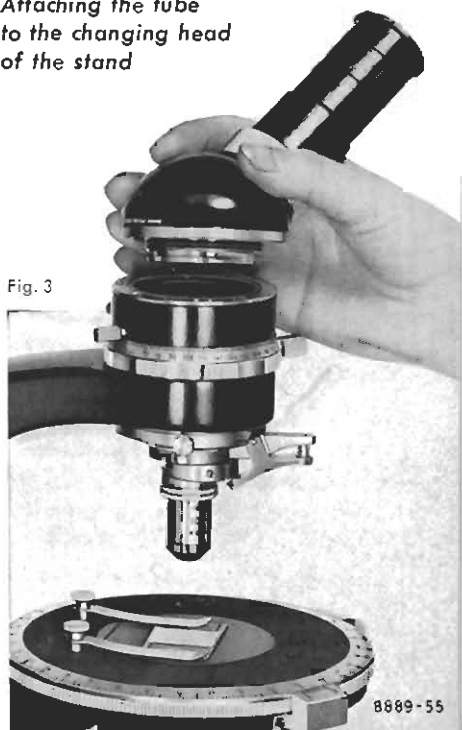

Fig. 3
3. The tube, of either monocular or binocular type, is engaged with the bayonet mount (3) of the stand and secured by a quarter turn anticlockwise (see fig. 3). The tube can also be attached so that the eyepiece points to the back of the stand, a suitable position for observations in incident light. When attaching the tube see that the red positioning dots are opposite each other.
4. The lamp unit (14) with its 6 volt, 15 watt lamp (15) is fitted into the foot of the stand from the rear. To change the lamp, the holder (16) can be easily removed after first loosening the locking screw (17). Insert the filament lamp (15) firmly in the socket and secure by turning clockwise as far as possible. The lamp holder (16) is then replaced in the foot of the microscope with the chromed locking screw (17) pointing upwards. Tighten up this screw again. The lamp should be checked for correct centring each time a change is made (see page 11). The 6 volt, 15 watt lamp can stand a maximum load of  $2\frac{1}{2}$  amps and gives an intense light of very suitable spectral composition. It should not be connected unless the transformer (for A.C. supplies) or resistance (for D.C. and A.C.) designed for this lighting unit is used. First compare the data on the mains meter and the rating plate of the transformer or resistance to make sure that the type and voltage of the electricity supply agree.